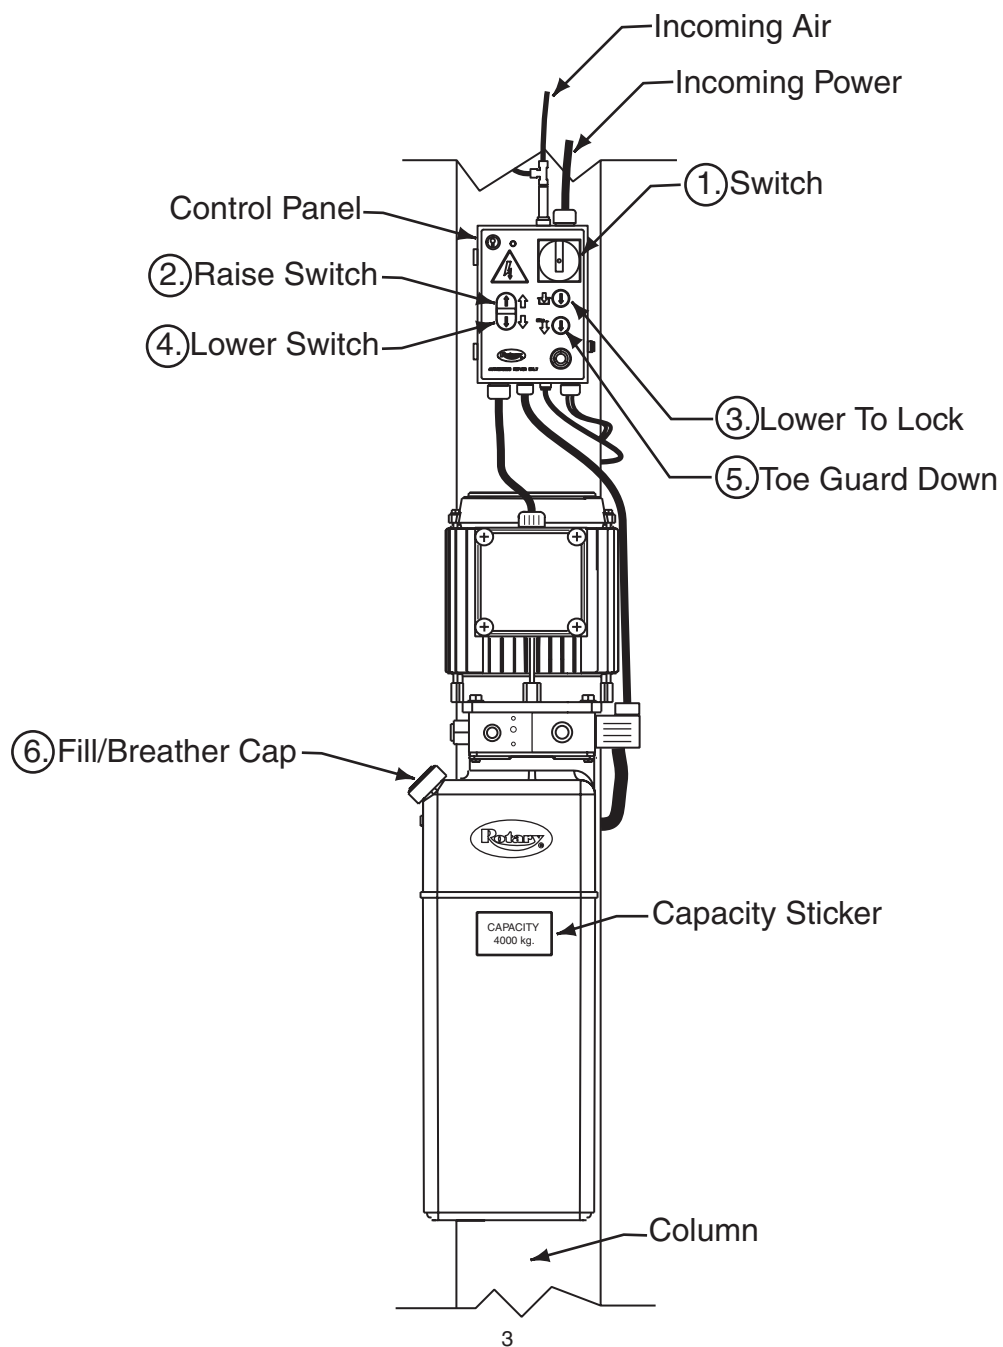

Fig. 1
- Push RAISE switch on power unit, Fig. 1.
- Push LOWER switch to lower, Fig. 1.